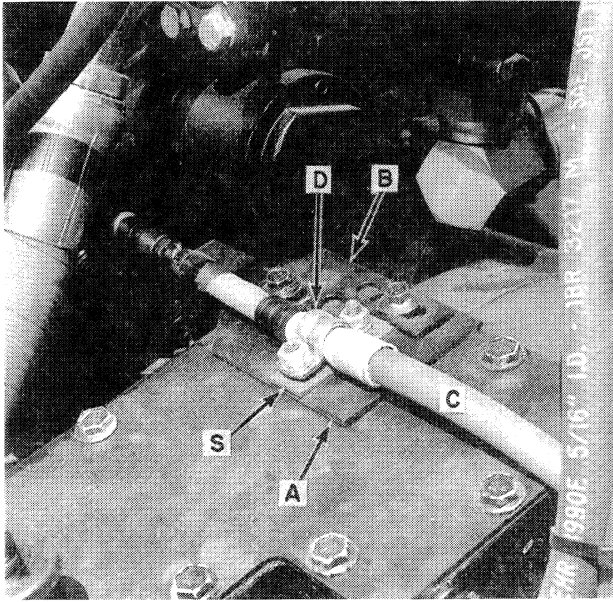

FIGURE 3-6
6. Remove the two nuts that attach the PTO clutch control cable, C, and cable clamp, D, Figure 3-6. Do not lose spacer, S. The